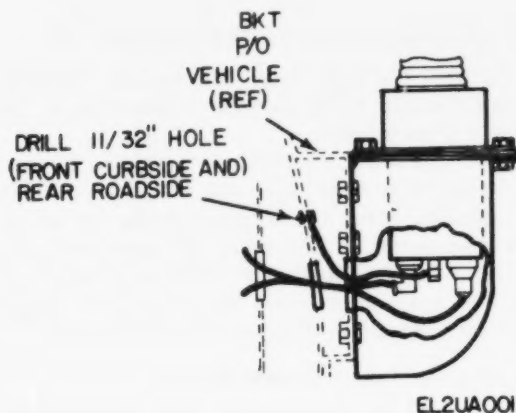

Figure 2-1. Grounding Antenna AS-1729/VRC to truck.
- c. Attach one end of the ground strap to the threaded boss on the matching unit, using hardware supplied. The remaining end is connected to the truck sidewall, figure 2-1.